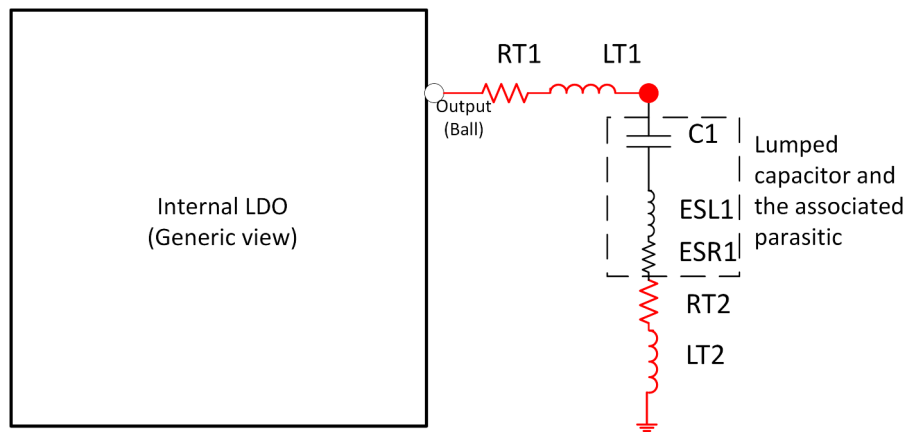

图 7-4. Parasitic offered by different portion of the output path (for one capacitor)
1.2V Digital LDO requires one decoupling capacitor with a typical value of 4.7uF. The parasitic offered by different portion of the output path is illustrated in 图 7-4. “RT1” and “RT2” are parasitic resistances offered by the ball to capacitor lead trace and the ground trace respectively. Similarly, “LT1” and “LT2” are parasitic inductances offered by the ball to capacitor lead trace and the ground trace respectively. “ESL1” and “ESR1” are the effective series inductance and resistance of the decoupling capacitor. 表 7-5 gives the minimum, maximum and typical values of the capacitance and the parasitic.